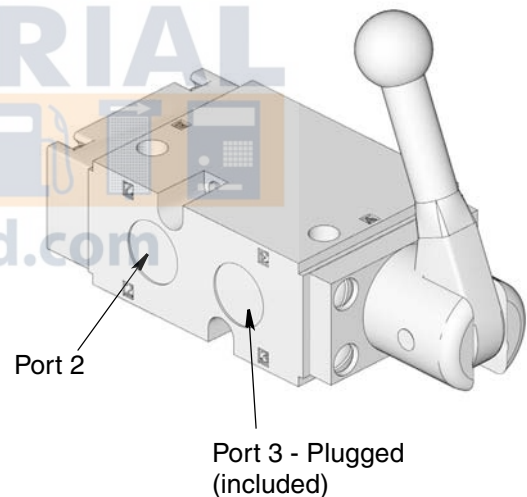

FIG. 14
- b. Connect port 2 to the reel air motor (FIG. 14).